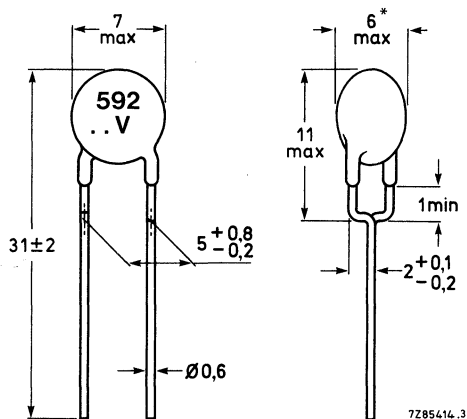

Fig. 1.
The resistors are marked with their serial number (592) and the maximum r.m.s. working voltage (see Fig. 1 and Table 1).